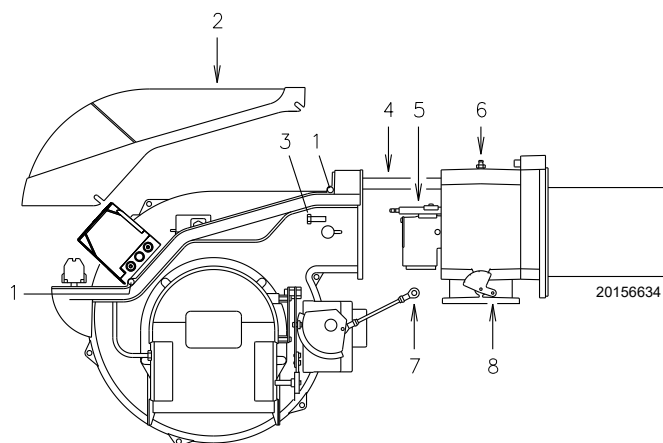

Fig. 38
Open the burner and make sure that all components of the combustion head are in good condition, not deformed by the high temperatures, free of impurities from the surroundings and correctly positioned. If in doubt, disassemble the elbow 5)(Fig. 38).
- Loosen the screws 1) and remove the cover 2)(Fig. 38);
- disengage the articulated coupling 7) from the graduated sector 8)(Fig. 38);
At this point it is possible to extract the inner head 5) after having removed the screw 6)(Fig. 38).